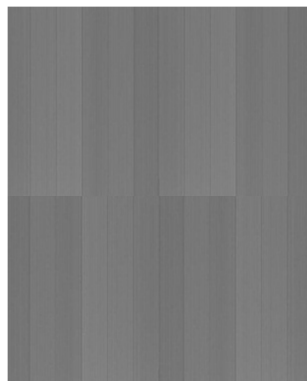

Figure 4: Dark image.
9. Ensure that the **Auto-contrast** check box is ticked. Click on **Normal** then click **Snap** again. A blank image similar to Figure 4 should be visible. This is a high-